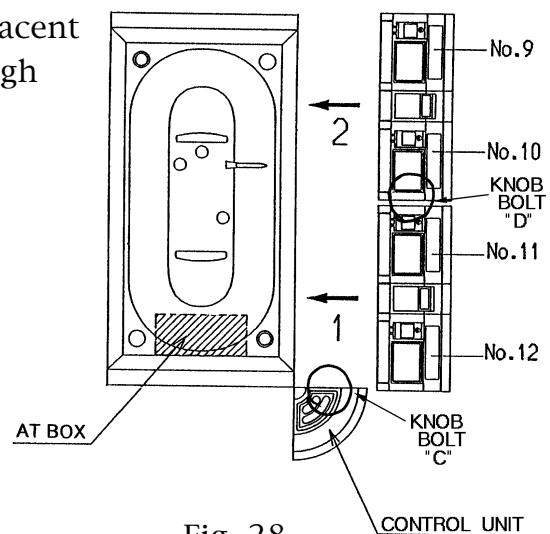

Fig. 28
Refer to Fig. 28.
10. Push the assemblies from the station unit No. 9 through No. 10 and from No. 11 through No. 12 to the track unit while paying attention so that the track unit will correctly meet the above assemblies. Refer to Fig. 28.